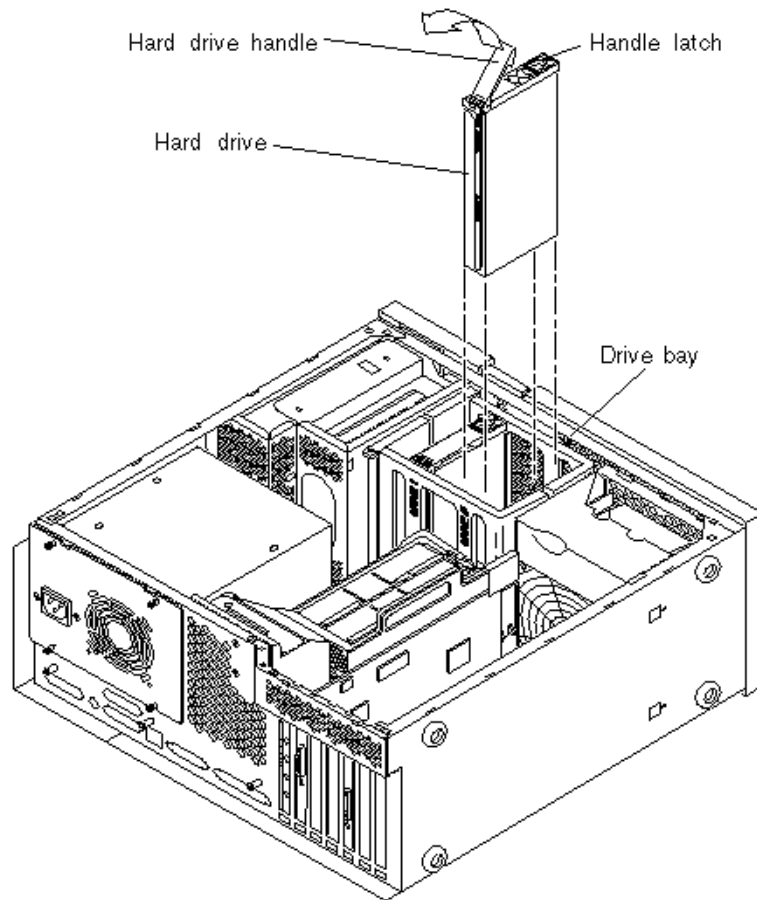

Figure 9-1 Removing and Replacing a Hard Drive
4. Remove the hard drive as follows (Figure 9-1):
1. Replace the hard drive as follows (Figure 9-1):